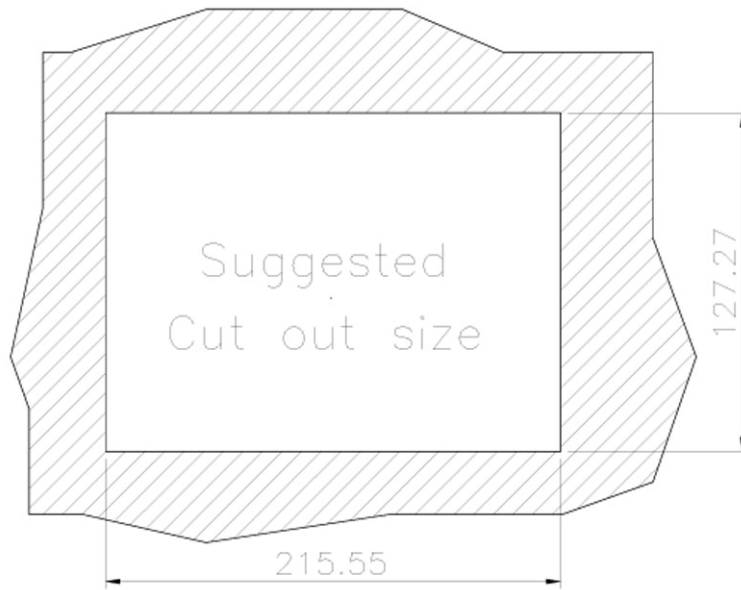

Figure 4-12: IOVU-751R-CE5/UX-R10 Panel Opening (mm)
- Step 2: Cut out a section from the panel that corresponds to the rear panel dimensions of the IOVU-751R-CE5/UX-R10. Take care that the panel section that is cut out is smaller than the overall size of the frame that surrounds the IOVU-751R but just large enough for the rear panel of the IOVU-751R to fit through (see **Figure 4-12**).